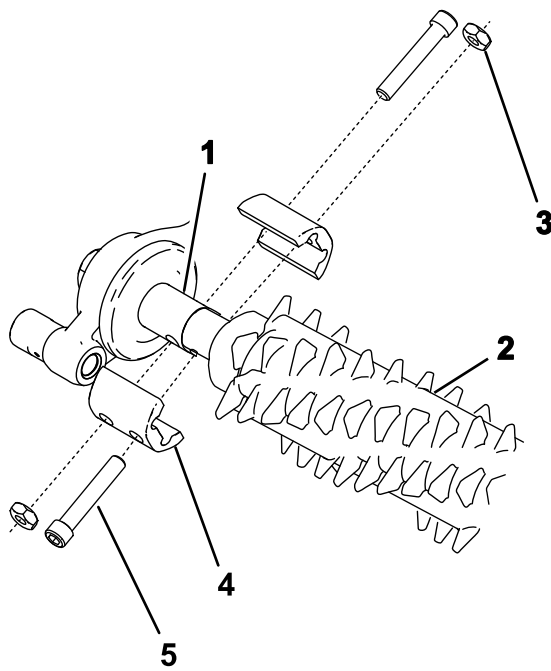

Figure 17
2. Line up the groomer assembly with the drive-stub shafts of the groomer drive box and idler assembly (Figure 17).
3. Secure the groomer to the machine as shown in Figure 17 and snug the bolts.